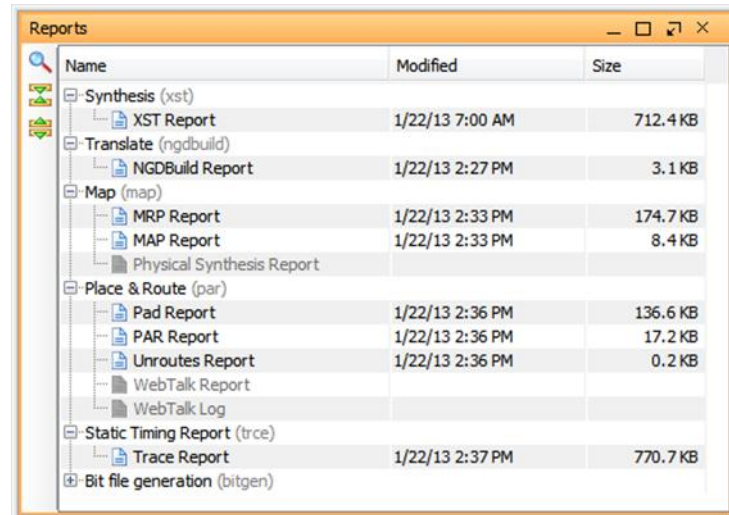

Figure 25: Implementation Reports
18. If the Reports view is not opened, select **Window > Reports** to display the Reports view, as shown in FIGURE 25.